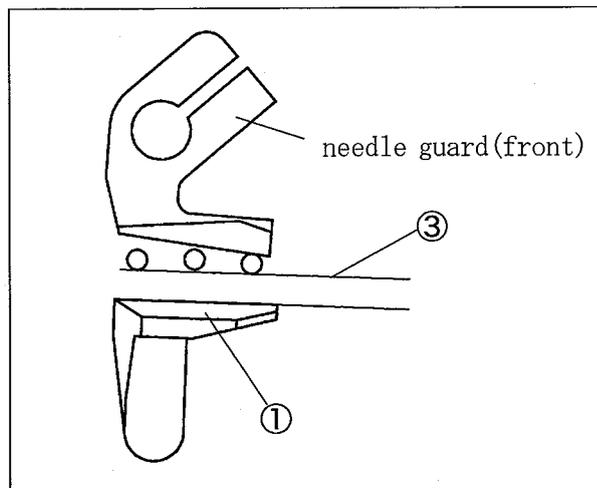
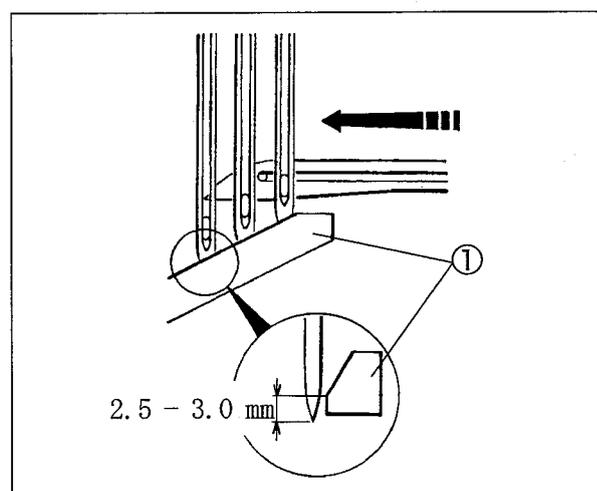
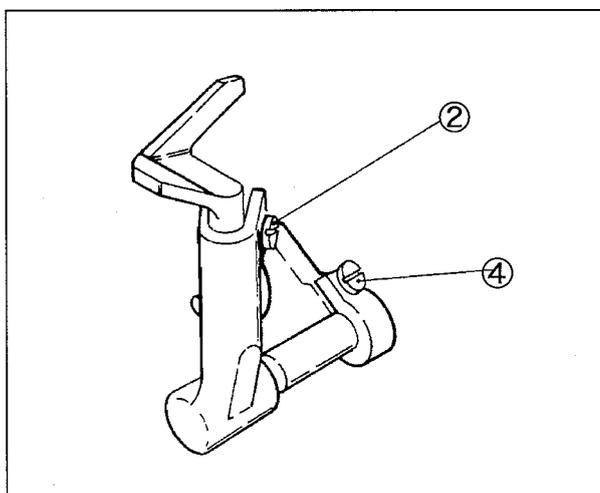

Fig. 6-23
Fig. 6-24
Fig. 6-25
- (1) When the looper tip comes to the center of the right needle, loosen the screw ②. Place the needle guard(front) ① parallel to the line connecting the needles when viewing from the top. Tighten the screw ②. (Fig. 6-23)
- (2) Rotate the handwheel clockwise until the looper tip comes to the center of the left needle.
- (3) Loosen the screw ② to adjust the needle guard (front) ① so that each needle tip is 2.5 - 3.0 mm below the corner on the needle guard(front) ①. (Fig. 6-24)
- (4) Tighten the screw ②.
- (5) Loosen the screws ② and ④. Make the clearance between the needle guard(front) ① and the right needle or the left needle to 0.3 - 0.4 mm respectively. (Fig. 6-25)
- (6) Tighten the screws ② and ④ securely.